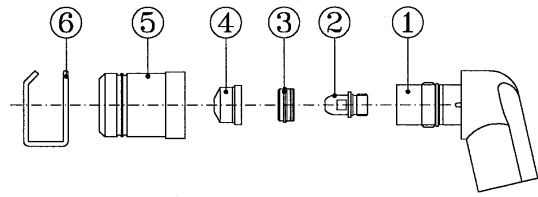

Fig.1 Torch body assembly
- 2) Check that all the parts of the torch are working. For the various parts that make up the torch body (Fig.1), the sequence of correct assembly is 1-2-3-4-5-6.